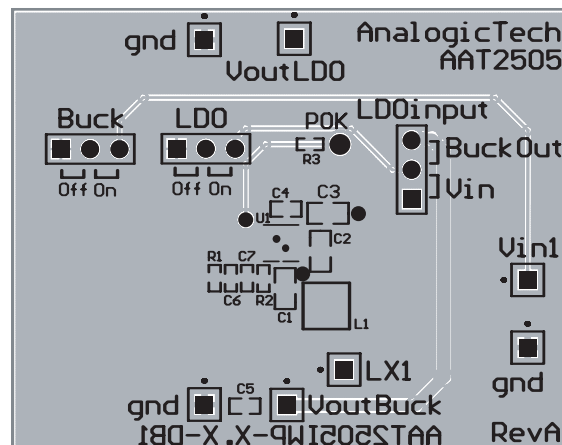

Figure 4: AAT2505 Evaluation Board Bottom Side.
1. The input capacitor C2 should connect as closely as possible to VP and PGND, as shown in Figure 4.